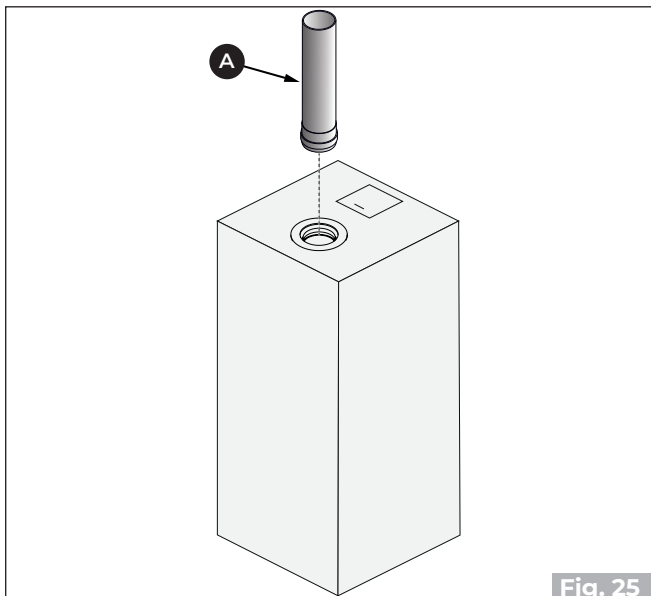

Fig. 25
- Connect the flue gas outlet pipe **(A)** **"Fig. 25"**.